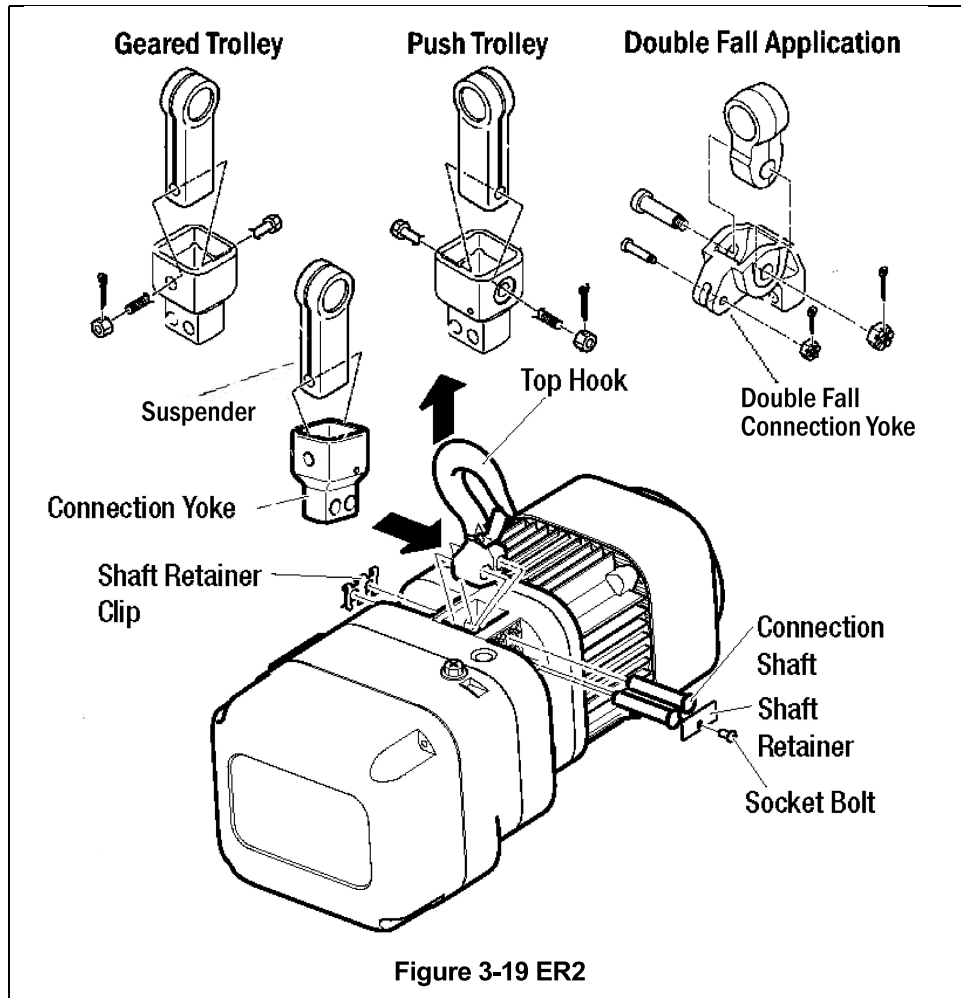

Figure 3-19 ER2
- 1) Refer to **Figure 3-19**.
- 8) Install the appropriate Suspenders for the application, securing it to the Connection Yoke with the Yoke Bolt, Slotted Nut, and Split Pin. **Note: (See Figure 3-19) Double Fall applications require a Chain Pin, small Slotted Nut, and small Split Pin, in addition to the Yoke Bolt, Slotted Nut, and Split Pin.**